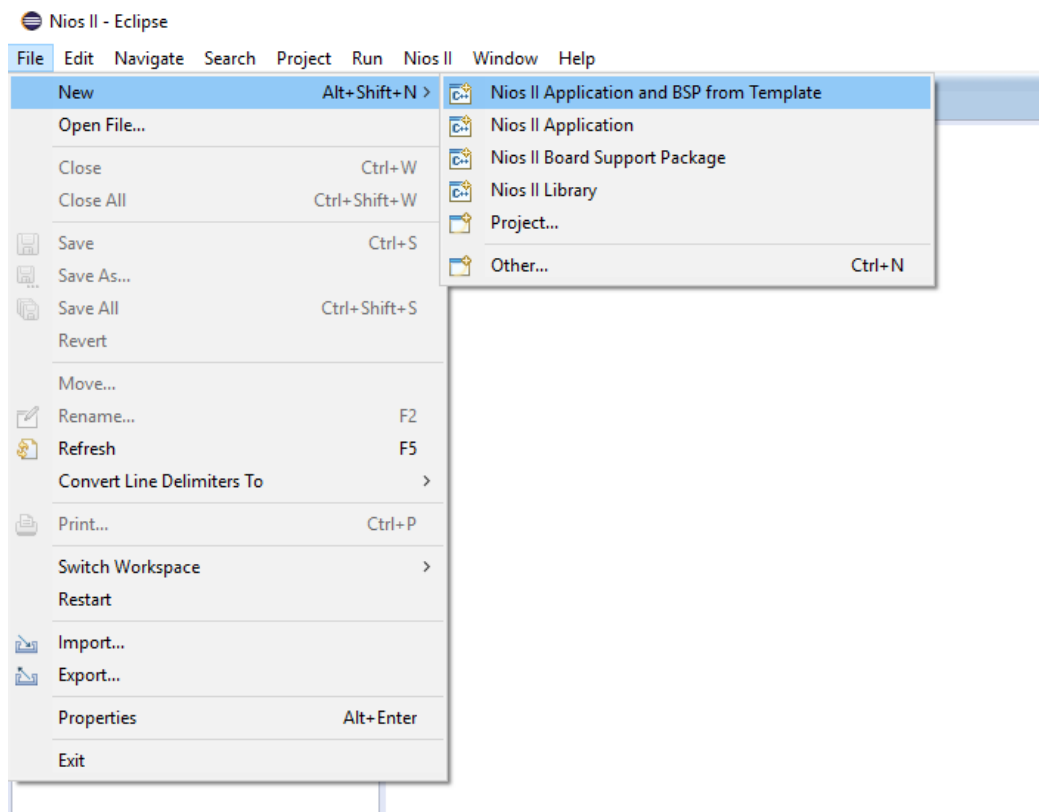

Figure 3-3
3.) Next will be creating the Hello World Example Project. Choose **File → New → Nios II Application and BSP from Template** as shown in Figure 3-3.